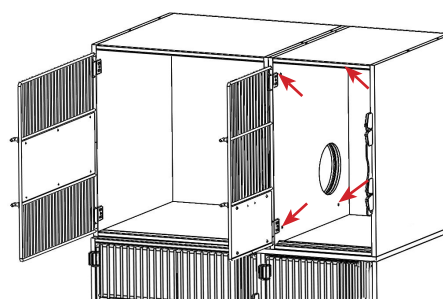

FIGURE 2.26 - Attach Litter to Living
STEP 5: Insert a barrel nut and #3 screw into each of the four pre-drilled holes in the side panel, secure both components together. See FIGURE 2.26